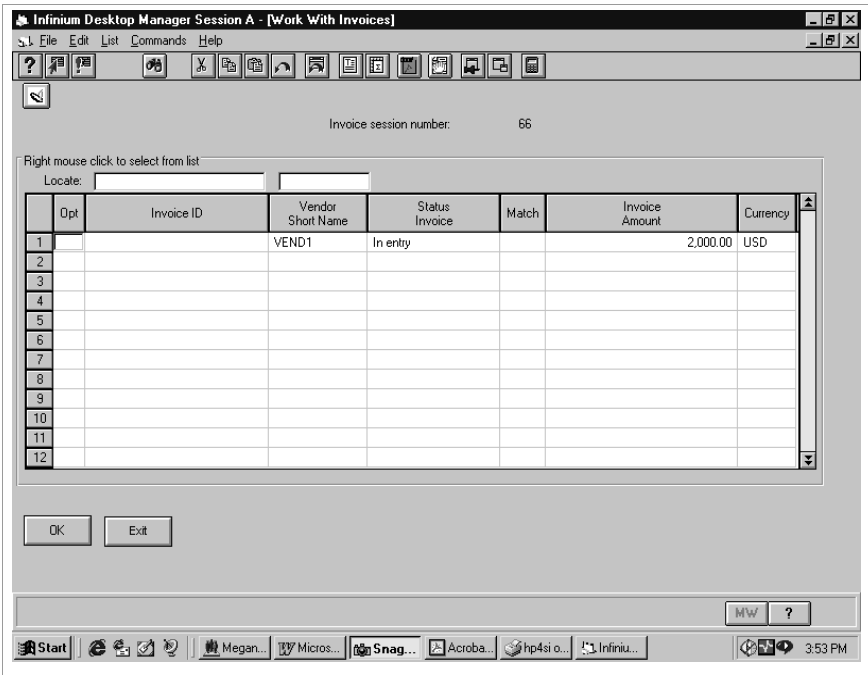

Figure 7-4: Work With Invoices screen
- 4 Select **Work with invoices** or type **5** and press Enter. The system displays the screen shown in Figure 7-4.